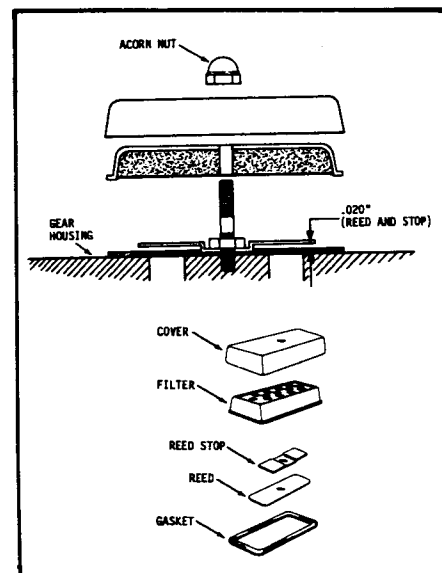

Fig. 150 Crankcase Breather
(12) Crankcase Breather (Fig. 150):